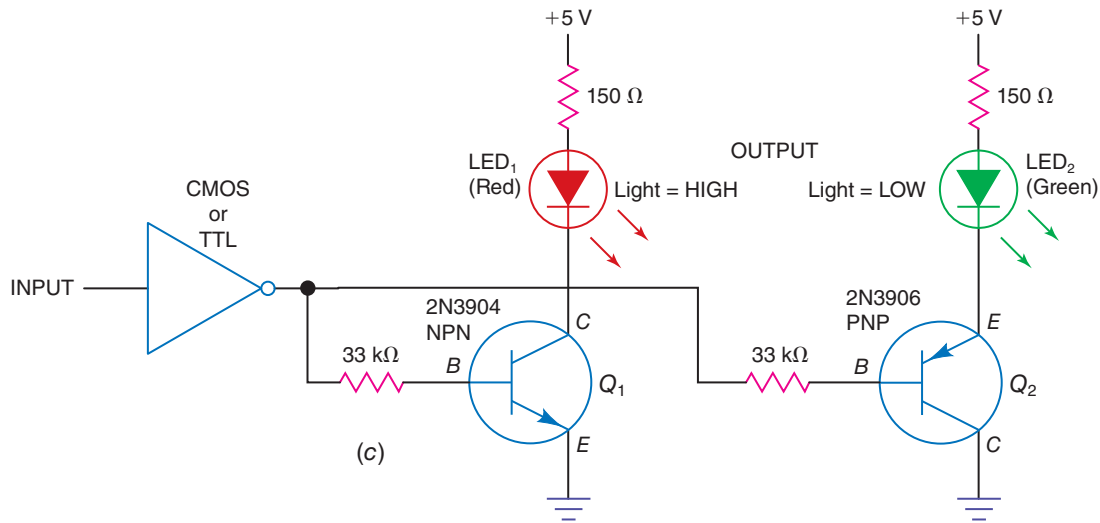

Fig. 5-18 (cont.) Interfacing to LEDs using a transistor driver circuit. (c) HIGH-LOW indicator circuit (simplified logic probe).
Fig. 5-18 Interfacing to LEDs using a transistor driver circuit. (a) Active-HIGH output using an NPN transistor driver. (b) Active-LOW output using a PNP transistor driver (simplified logic probe).
Three improved LED output indicator designs are diagrammed in Fig. 5-18. Each of the circuits uses transistor drivers and can be used with either CMOS or TTL. The LED in Fig. 5-18(a) lights when the output of the inverter goes HIGH. The LED in Fig. 5-18(b) lights when the output of the inverter goes LOW. Notice that the indicator in Fig. 5-18(b) uses a PNP instead of an NPN transistor.
The LED indicator circuits in Fig. 5-18(a) and (b) are combined in Fig. 5-18(c). The red light (LED₁) will light when the inverter's
The circuit in Fig. 5-18(c) is a very basic logic probe. However, its accuracy is less than most logic probes.
41. Refer to Fig. 5-18(a). When the output of the inverter goes LOW, the transistor is turned _____ (off, on) and the LED _____ (does not light, lights).
42. Refer to Fig. 5-18(c). When the output of the inverter goes HIGH, transistor _____ (Q_1 , Q_2) is turned on and the _____ (green, red) LED lights.